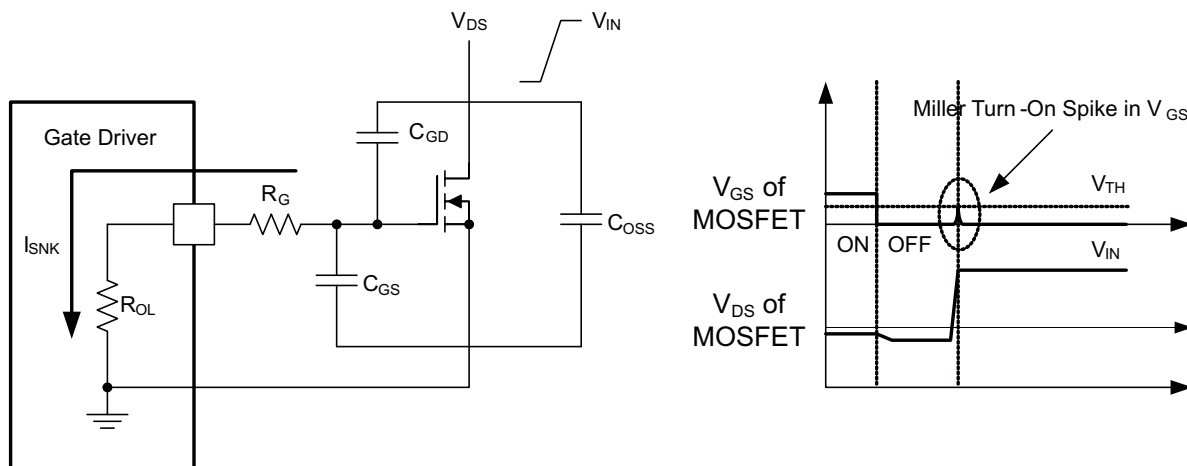

图 40. Low Pull-Down Impedance in UCC2753x
An example of a situation where Miller turnon is a concern is synchronous rectification (SR). In SR application, the dV/dt occurs on MOSFET drain when the MOSFET is already held in OFF state by the gate driver. The current charging the C_{GD} Miller capacitance during this high dV/dt is shunted by the pull-down stage of the driver. If the pull-down impedance is not low enough then a voltage spike can result in the V_{GS} of the MOSFET, which can result in spurious turnon. This phenomenon is illustrated in 图 40.